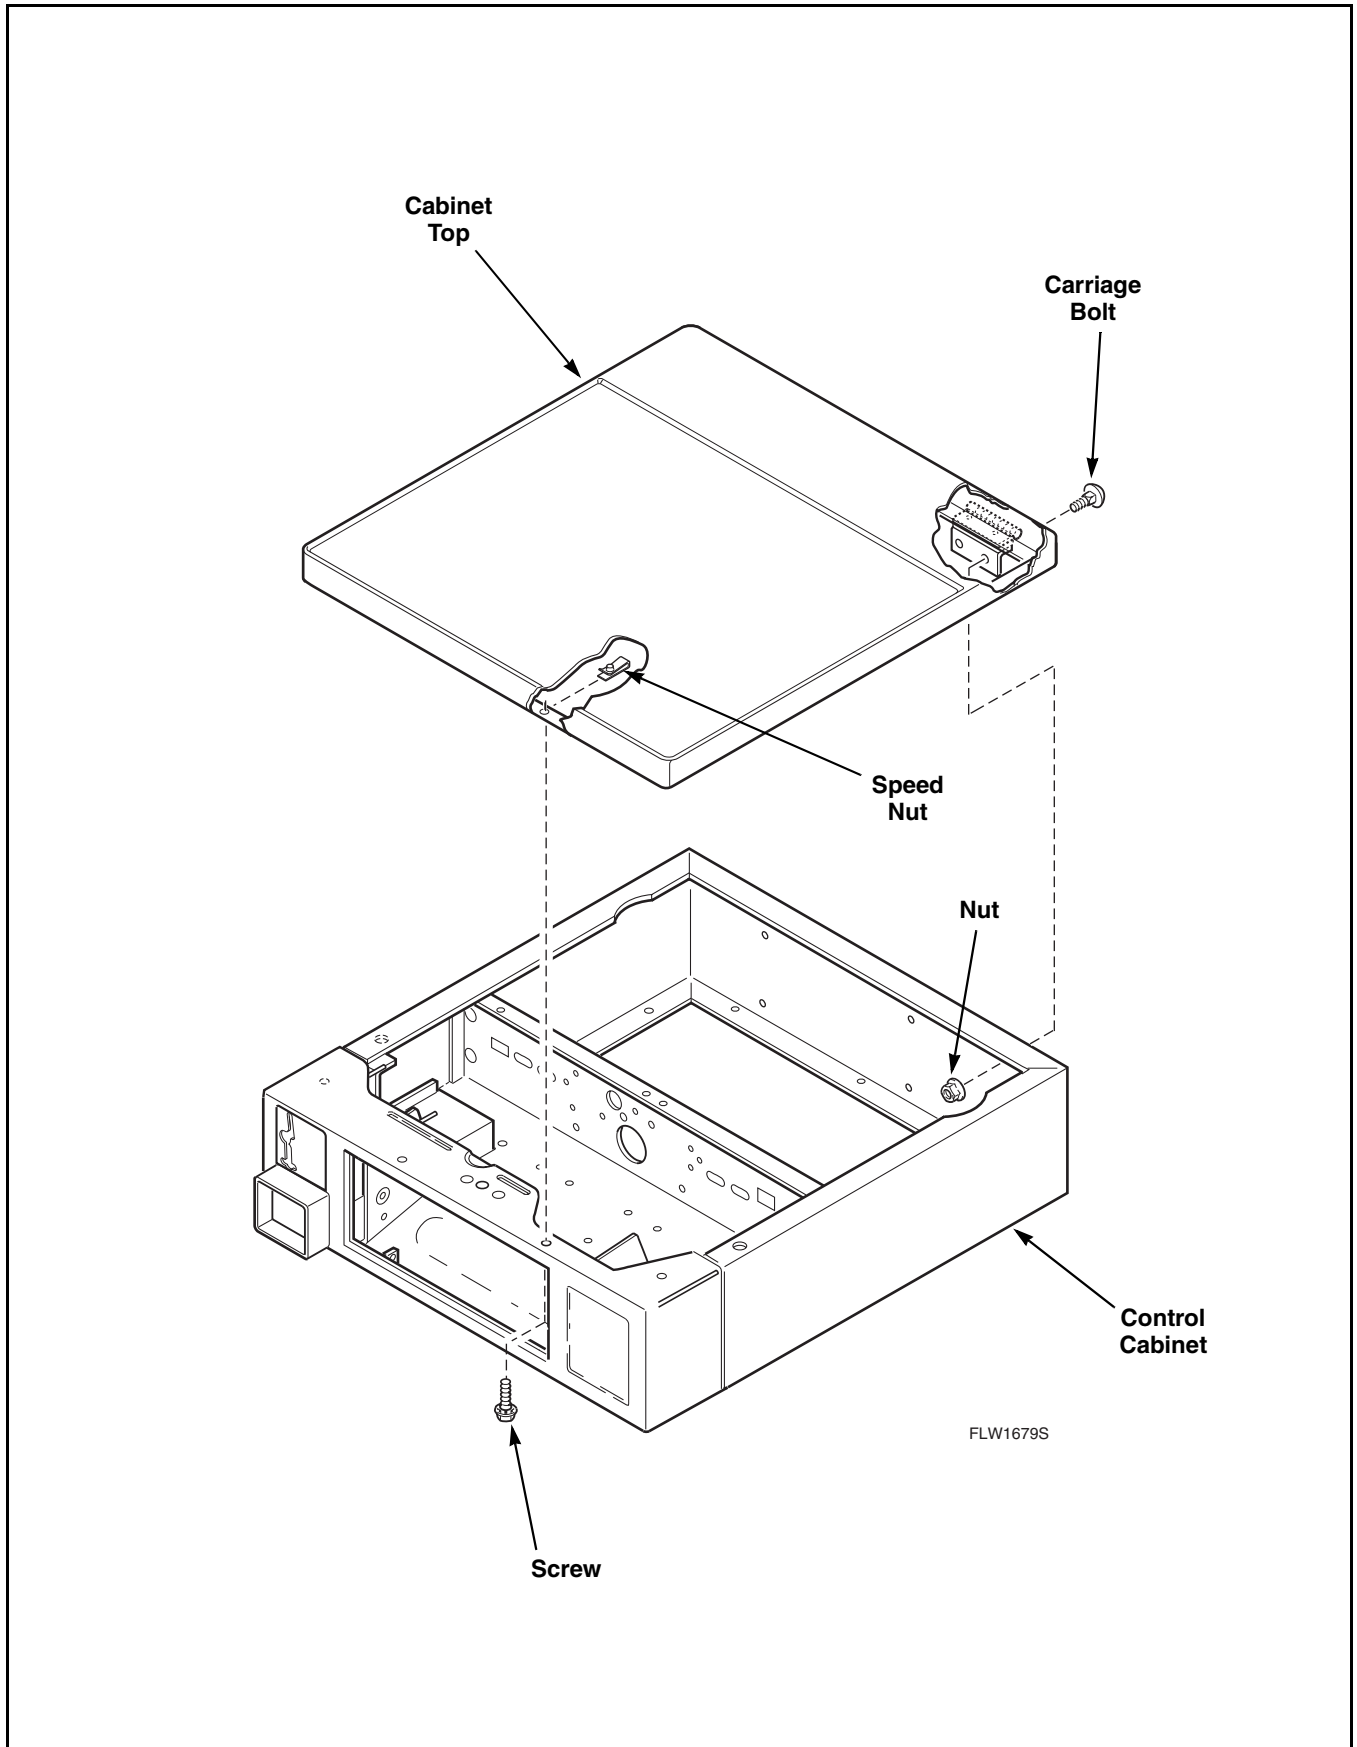

Figure 15
- Remove cabinet top from washer by removing nuts and carriage bolts holding cabinet top and hinges to control cabinet. Refer to *Figure 15*.